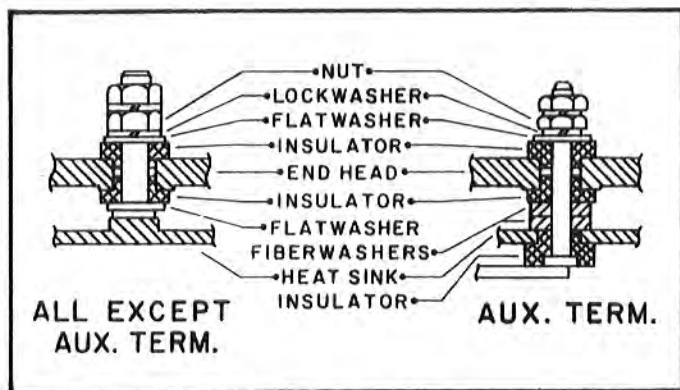

Figure 2-11
1. Assemble the stator and rectifier heat sink assemblies into the end head assembly of paragraph 2.5.5 making certain terminals, insulators and hardware are correctly assembled as shown in Figure 2-11. Align housing and stator with previous scribe marks to insure alignment of thru-bolt holes. Final torque of terminal nuts will be done at complete assembly of alternator.